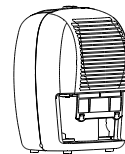

Fig. 10
- Grasp the lower side of the filter and pull it downward, see Fig.10.
Insert the air filter into the unit from the side and push it upward. See Fig.10.